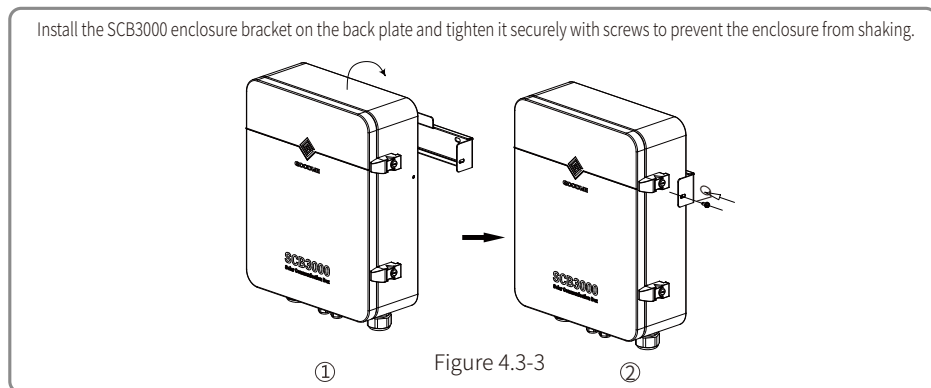

Figure 4.3-3
- Install the enclosure as shown in Figure 4.3-3.